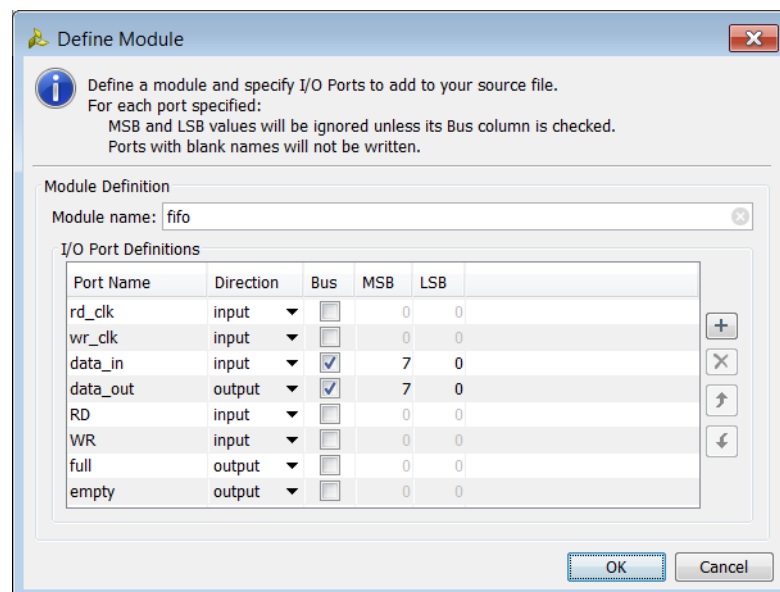

Figure 2-7: Define Module Dialog Box
8. *Optional*: If you used the **Create File** option in step 3, the Define Modules dialog box (Figure 2-7) appears. In this dialog box, define the module or architecture in the Verilog, Verilog Header, SystemVerilog, or VHDL code using the following options, and click **OK**: